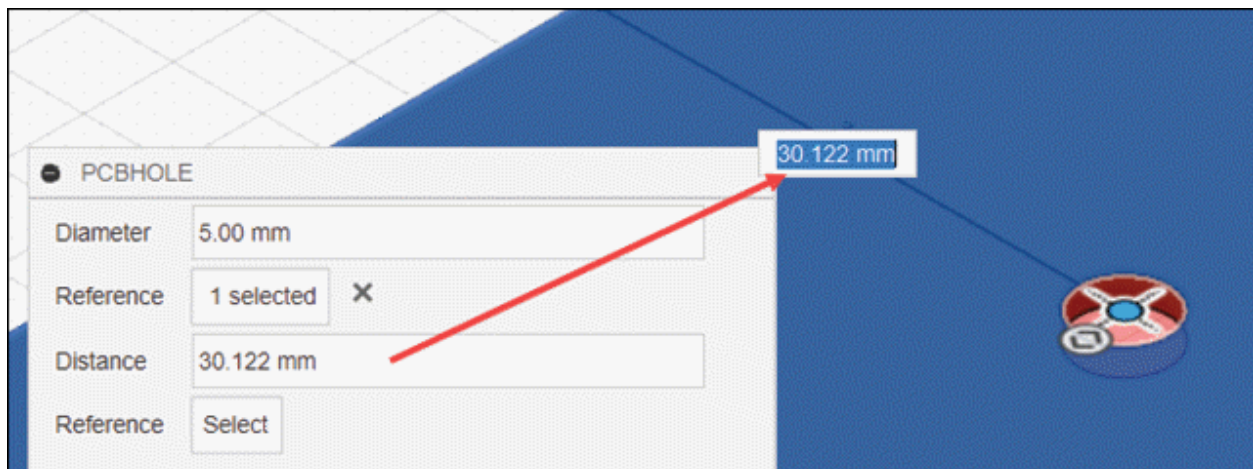

Figure-135. Specifying distance
- Click at the center of hole and select desired edge of PCB to define first reference. The options to define distance from selected reference will be displayed; refer to Figure-135.